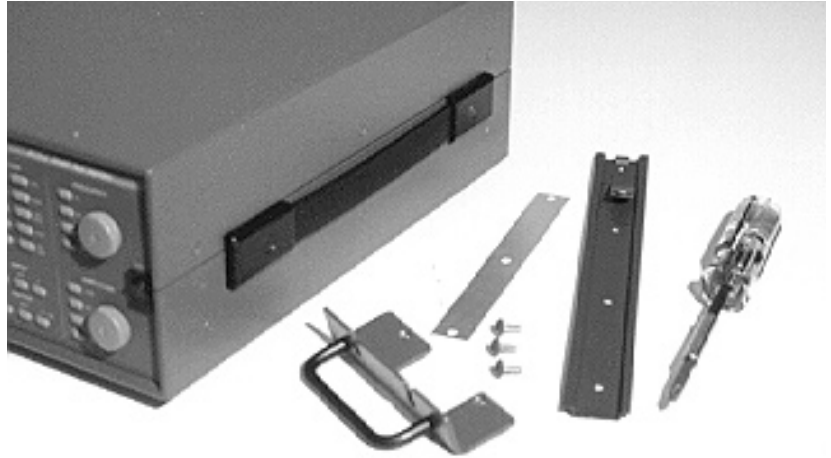

Figure B-3. Slider rack mounting kit, right end
- a. Align the right hand rack handle (a painted, formed steel plate 16 inches long) over the spacer mentioned in Step 4. The spacer is now sandwiched between the instrument chassis and the rack handle. See Figure B-3.
- e. Remove the eight #6-32 flat head screws securing the front edge of the top and bottom covers to the chassis (there are two screws on the right and left sides of each of the top and bottom covers, near the front four corners of the case). See Figure B-3.